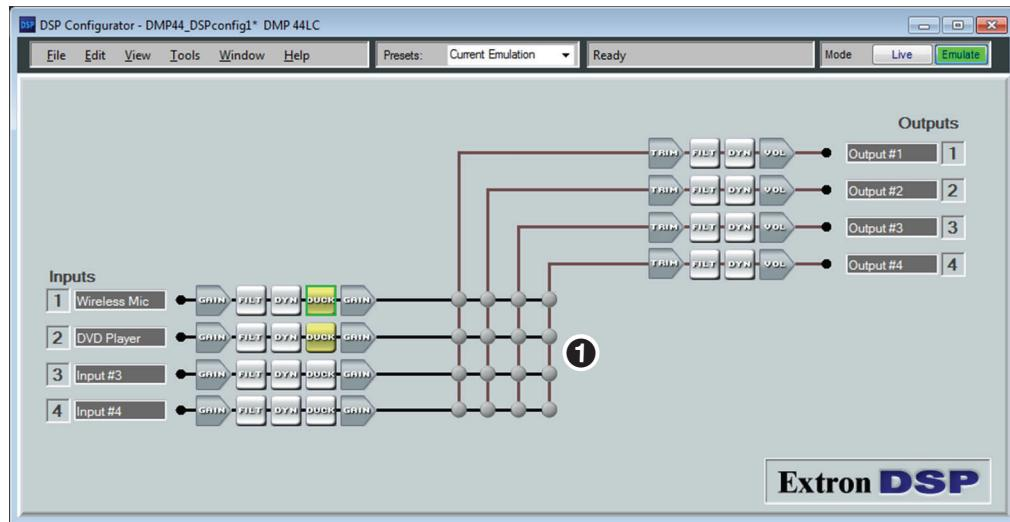

Figure 65. Mix Matrix on the Audio I/O Workspace
The DSP architecture contains a mix matrix through which incoming signals are routed to the line outputs (see figure 65, ①, on the next page). The mix matrix contains 16 mix-points, one for each input to each output bus. Each of the four line inputs is connected to a mix-point for each of the four line outputs, so that any or all of the four inputs can be routed to any or all of the four outputs. Each mix-point has a single fader with a range of -24 dB to +12 dB, adjustable in increments of 0.1 dB, plus a mute control.